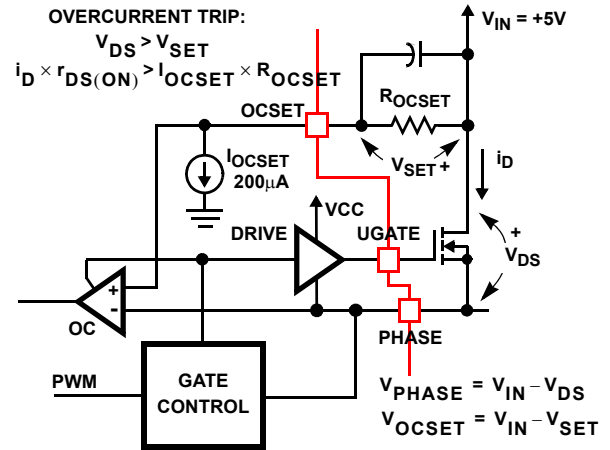

FIGURE 9. OVERCURRENT DETECTION
An external resistor ( $R_{OCSET}$ ) programs the overcurrent trip level for the PWM converter. As shown in Figure 9, the internal 200mA current sink ( $I_{OCSET}$ ) develops a voltage across  $R_{OCSET}$  ( $V_{SET}$ ) that is referenced to  $V_{IN}$ . The DRIVE signal enables the overcurrent comparator (OC). When the voltage across the upper MOSFET ( $V_{DS(ON)}$ ) exceeds  $V_{SET}$ , the overcurrent comparator trips to set the overcurrent latch. Both  $V_{SET}$  and  $V_{DS}$  are referenced to  $V_{IN}$  and a small capacitor across  $R_{OCSET}$  helps  $V_{OCSET}$  track the variations of  $V_{IN}$  due to MOSFET switching. The overcurrent function will trip at a peak inductor current ( $I_{PEAK}$ ) determined by: